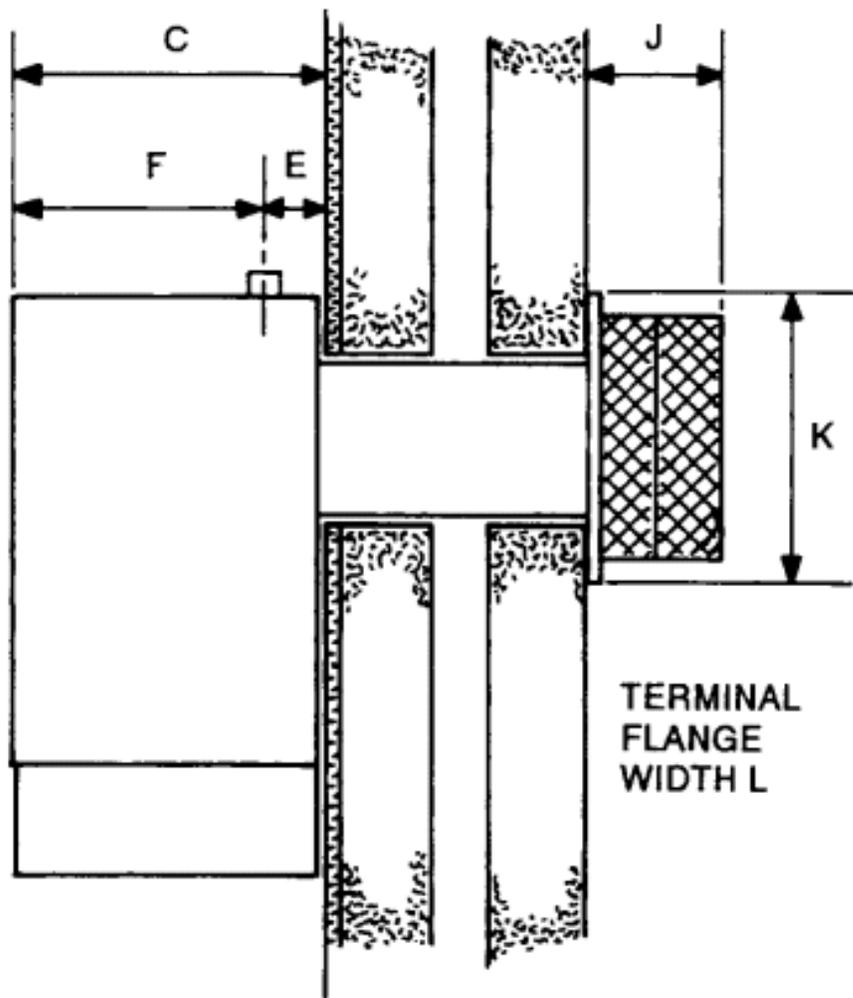

Fig. 1 Dimensions
**DIMENSION FOR INSTALLATION, mm (See Fig. 1)**